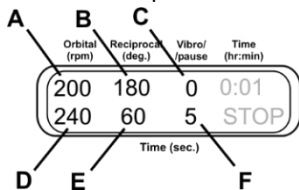
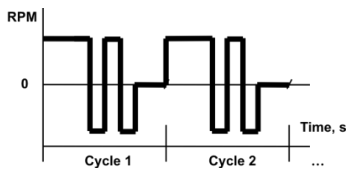

Figure 9.
Figure 10.
7.9.3. **Orbital + Reciprocal + Pause.** Set the speed (fig. 9/A, 20–250 rpm) and time (fig. 9/D, 1–250 s) of Orbital motion. Set the amplitude (fig. 9/B, 0–360°) and time (fig. 9/E, 1–250 s) for Reciprocal motion. It is performed at the same speed as the Orbital motion. Set the amplitude (fig. 9/C) of Vibro motion to zero. Set the time for Vibro motion (fig. 9/F, 1–5 s), this is the time of pause duration (fig. 10).